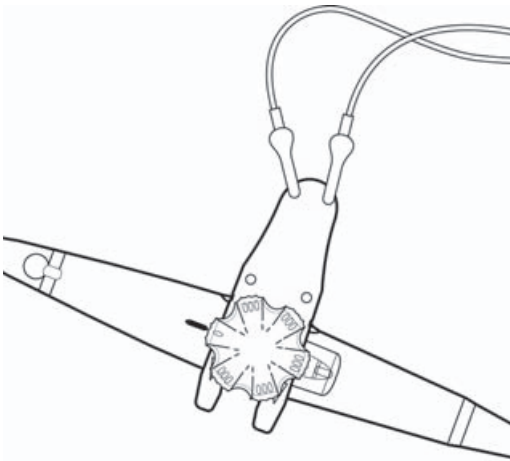

Figure 21 Puncture test tool attachment
- b** Connect the red leads to the puncture test tool as shown in Figure 21.